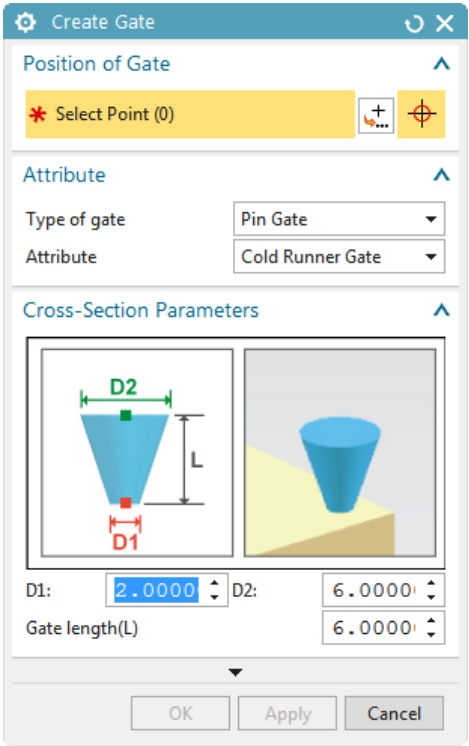

Figure 16-72 The *Create Gate* dialog box
- 8. Choose the **Gate Wizard** tool from the **Wizard** group; the **Create Gate** dialog box is displayed, refer to Figure 16-72.